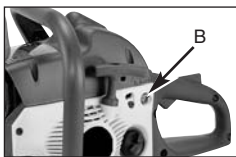

Abb. 9C
3. Press the fuel pump (B) 10 times (Fig. 9C).